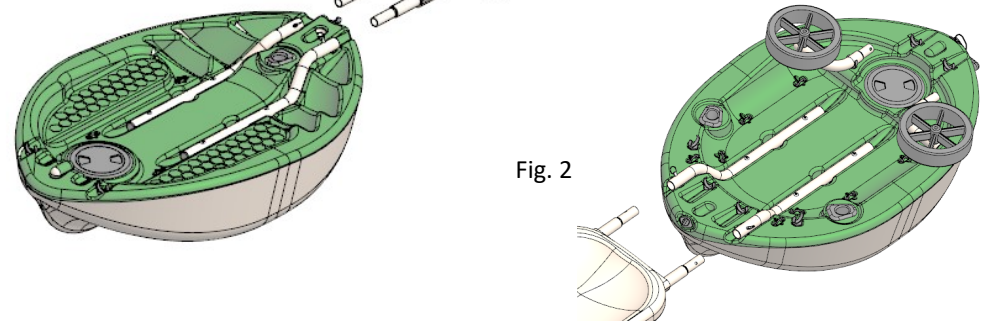

Fig. 2
- 1) Use the clips located toward the rear of the **BACK FLOAT** to hold the **LEFT** and **RIGHT WHEELS**. (fig. 2)